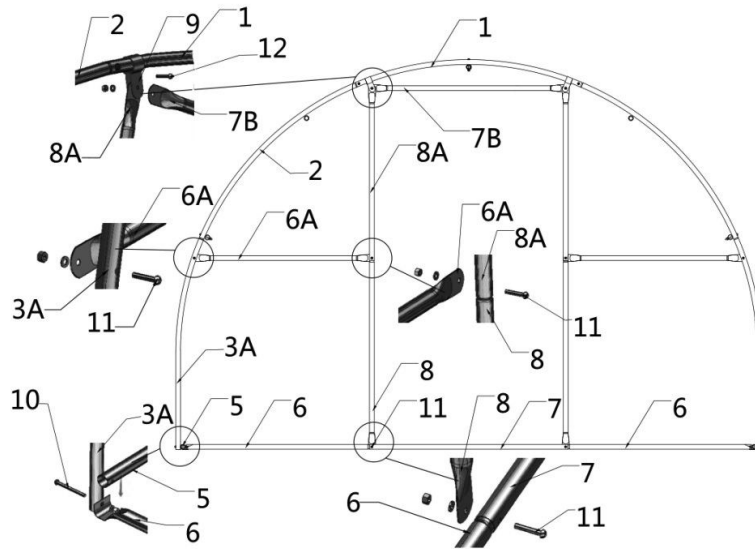

Figure 9
Step 7 : Install the remaining parts on the front truss (Figure 9)
- (2) Bottom tension bar (#6)